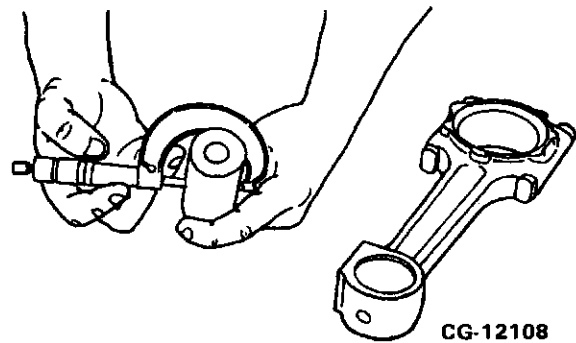

Figure 6.26. Measure Piston Pin O.D. to Check for Wear
2. Use a micrometer to measure the piston pin O.D. at two locations. Record the readings. Refer to Figure 6.26. If the pin wear exceeds "SPECIFICATIONS", replace the pin.